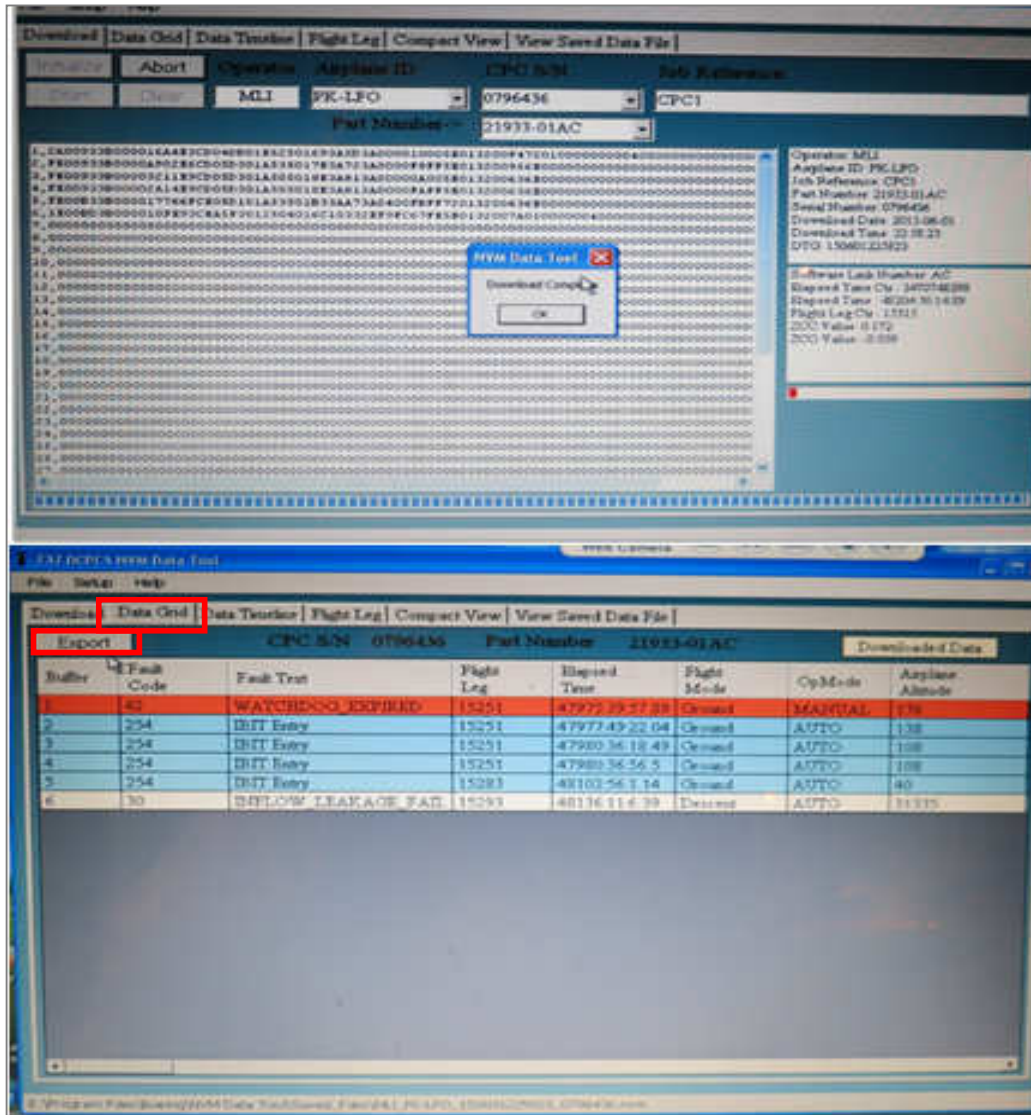

FIGURE 6: DATA SAVING PROCESS
11.	After the download is complete, export the data file in *.nvx and *.xls extension of a semicolon-delimited processed data. (Figure 6) Note: During an NVM download, the *.nvm extension is created automatically.